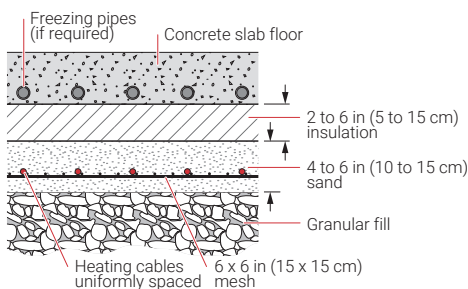

Figure 22: Typical cross section of heating cable in freezer floor
3. Prepare initial sand base and compact to conform to accepted engineering specifications to maintain structural stability. This base must be approximately 2 in (5 cm) thick after compaction. Another 2 in (5 cm) layer will be required after the cables have been installed (see Figure 22).